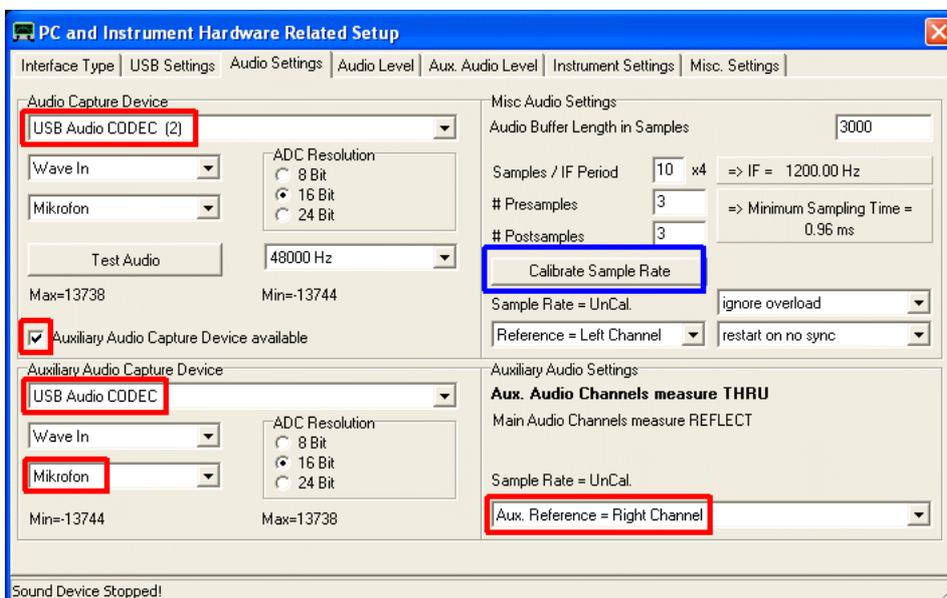

Fig 1. Configuration of Auxiliary Audio Capture Device
3.1.2 Select Tab "Audio Level" and tick the box "Auxiliary Audio Capture Device Available" in fig 1. which is applicable for Windows XP operating system. This will bring up the configuration of the Auxiliary Audio Capture Device. Change the settings as shown in fig 1.
If the "Auxiliary Audio Capture Device available" checkbox is NOT shown in fig 1., then exit VNWA application and add the line `AuxAudio=1` to the file VNWA.ini with a text editor and then restart the VNWA Application.
3.1.3 Press the button "Calibrate Sample Rate" as shown in fig 1. If Sample Rate Calibration fails (First pulse not detected) then reverse the two USB Audio Codec devices and test again (.ie. Audio Capture becomes "USB Audio Codec" and Aux. Audio Capture becomes "USB Audio Codec 2").
3.1.5 Connect a short coax cable between TX and RX ports and check the Reflect sinewave in fig 1. now becomes a flat blue line.
Troubleshooting: If the above displays are not obtained then check the USB-Audio Settings in fig 1. and perform step 3.1.3 again.